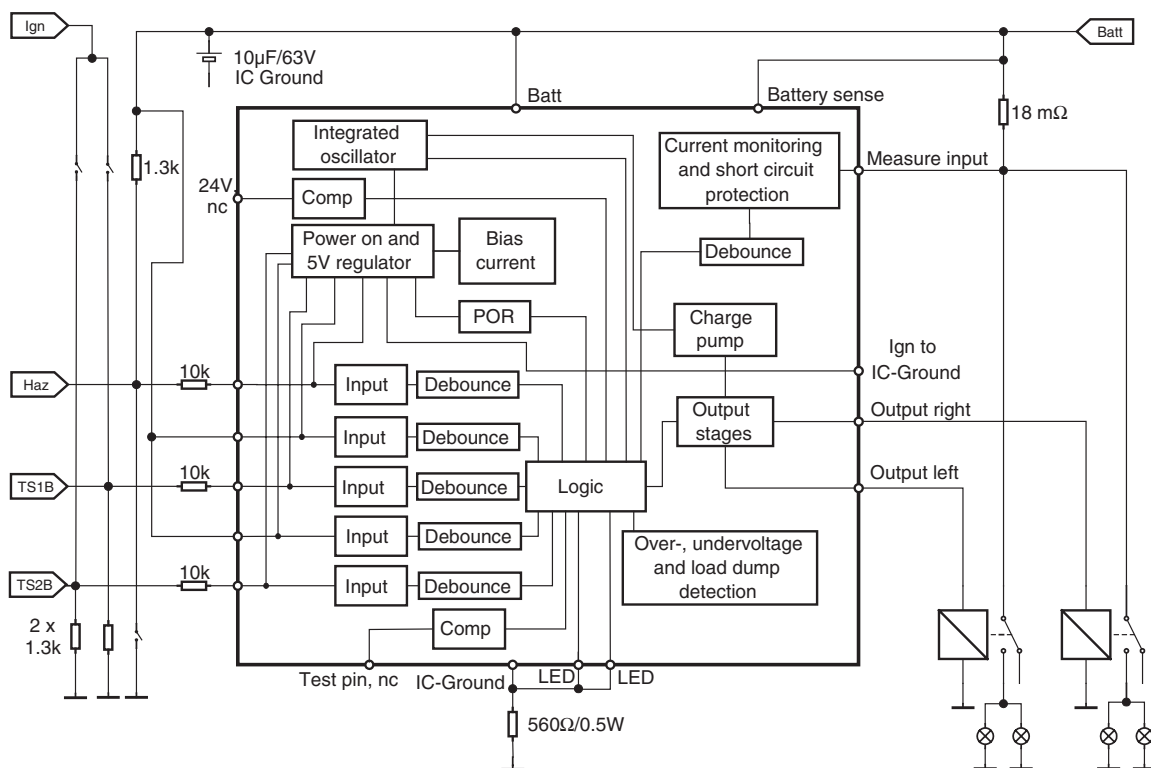
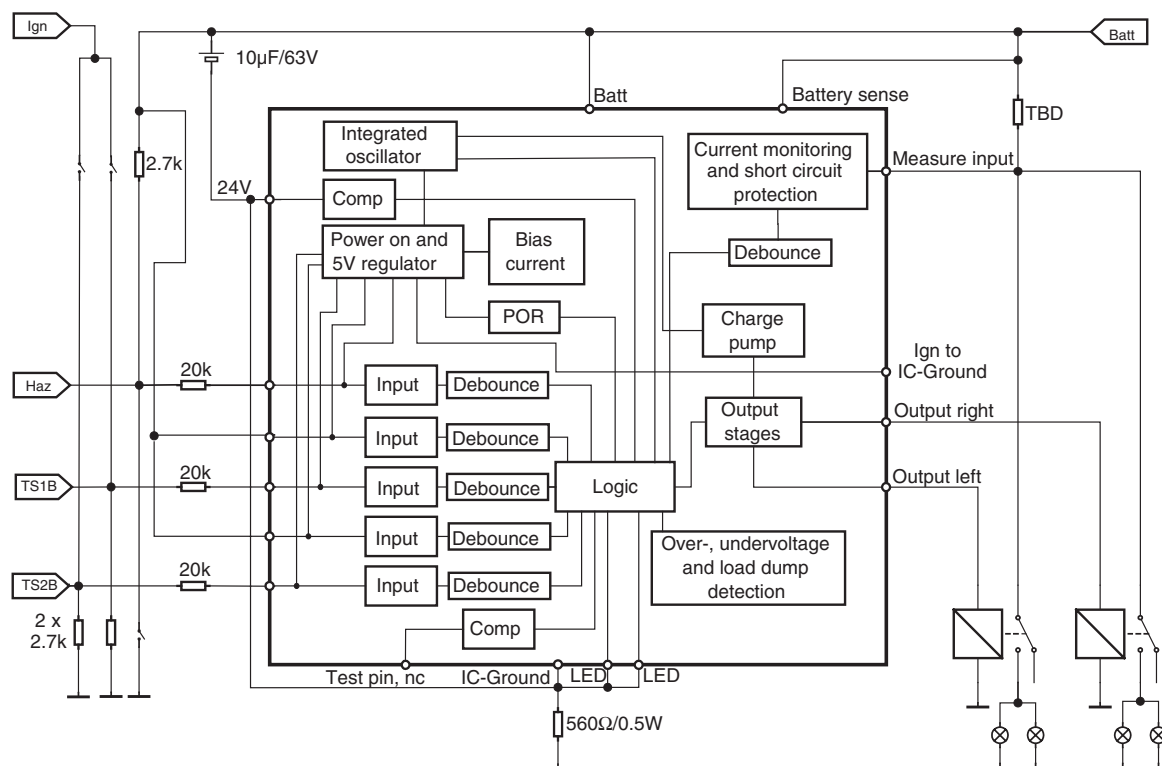

Figure 11-4. Application 3: 12V Version, Turn Signal Switches to Ignition, Hazard Switch to Battery
Figure 11-8. Application 3: 24V Version, Turn Signal Switches to Ignition, Hazard Switch to Battery
3. For hazard mode use input hazard or switch to battery as shown in Figure 11-4 on page 9 and Figure 11-8 on page 11.